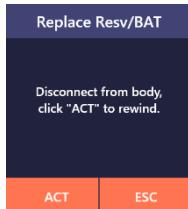

Figure A.8.1
(1) Disconnect from body (as shown in Figure A.8.1). Click "ACT" to rewind the push rod and the user can continue to replace the reservoir, or click "ESC" to return to the "More" interface.